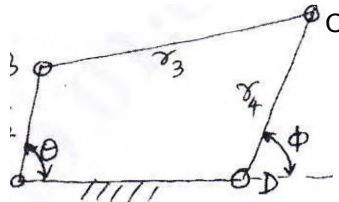

Fig. Q6
- 6 a. For the 4-bar mechanism shown in Fig.Q6, obtain Freudenstein's equation. (08 Marks)
- b. Find r_2 , r_3 and r_4 to generate a function $y = x^3$, $1 \leq x \leq 3$ accurate at $x = 1.1339$, $x = 2$ and $x = 2.866$ if $r_1 = 100\text{mm}$, $\theta_s = 30^\circ$, $\theta_f = 90^\circ$, $\theta = 45^\circ$ and $\phi = 135^\circ$ with respect to Fig.Q6. (12 Marks)